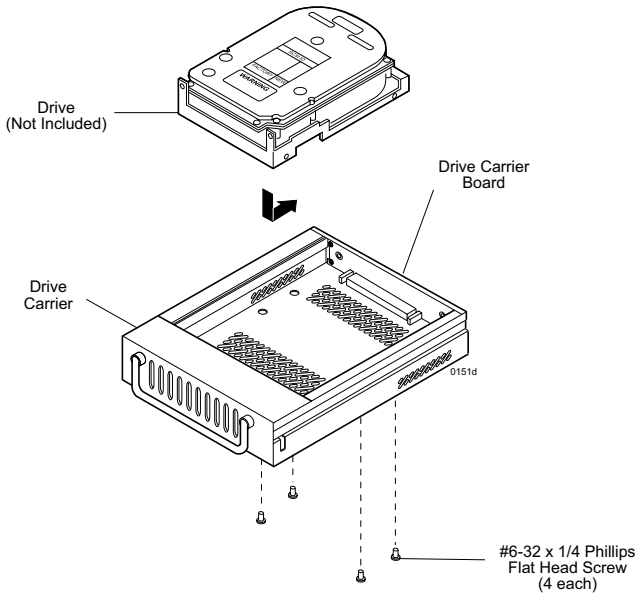

Figure 6: Drive Installation Assembly
1. Carefully insert the drive into the carrier. Slide the drive towards the Drive Carrier Board, so that the I/O connector on the drive mates with the I/O connector on the board (Figure 6).
2. Fasten the drive into place with four (4) #6-32 Phillips Flat Hd. screws (Figure 6).